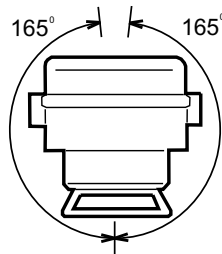

Fig. 50 Rotation range
31. Tighten the screw that limits the rotation of the single tank (Fig. 16). The tape (Fig. 16) marks the angle of one end position, adjust so that the single tank can rotate 165 degrees in both directions (Fig. 50).